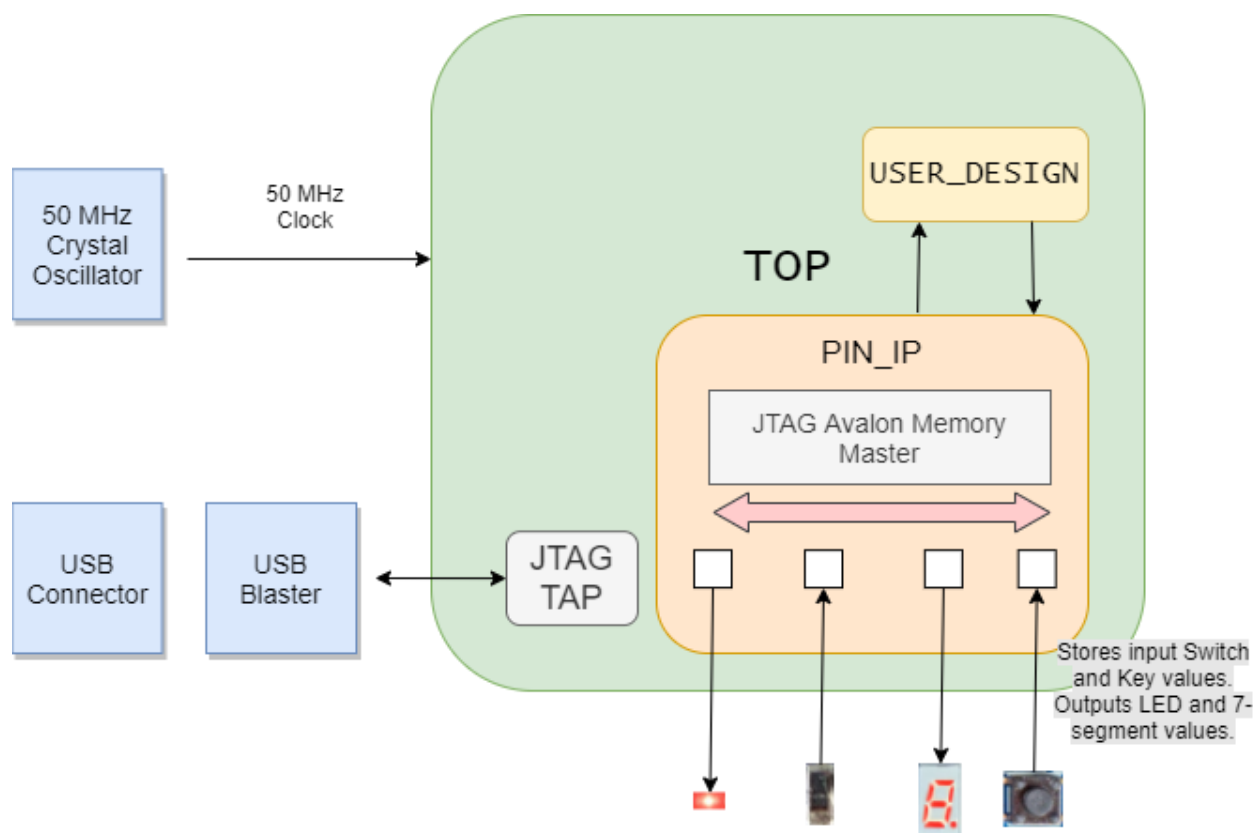

Figure 5: Remote Board Functionality Diagram
If you had a board in your hands, you would need to use the **Pin Planner** to tell Quartus what FPGA pins on the DE10-Lite development board are connected to the switches and LEDs used in the circuit. Because our board is working remote, the pins have already been assigned for you. To understand the process, refer to the diagram on Figure 5 below.
- As seen in Figure 5, at the **Top** level the only pin that goes to the FPGA is the clock. This signal is synchronization signal for the overall design. This input at the **Top** level is necessary because the complex module that handles communication wirelessly requires a clock.